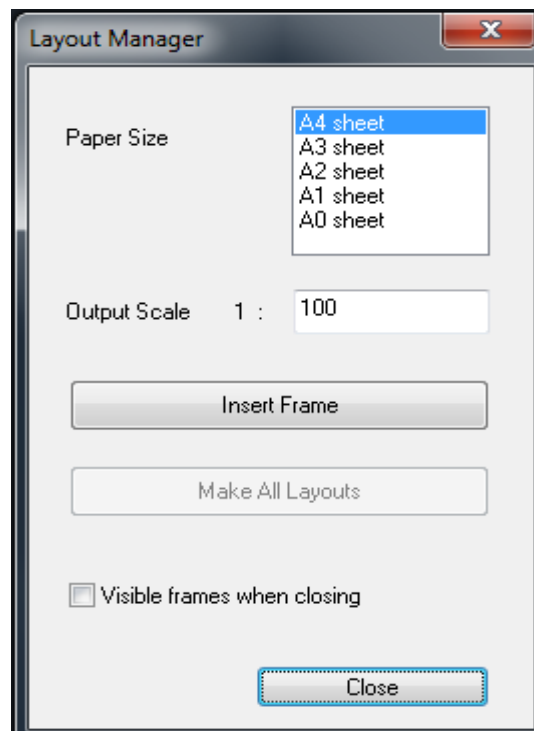

Fig. 3.8 - Layout Manager window
10. *Layout Manager*  activates the window in Fig. 3.8 that manages the creation of the various printing Layouts.
In the window in Fig. 3.8 you can select the following fields:
If you wish to cancel a layout, you must repeat the insertion using *Make All Layouts* in Fig. 3.8, in this case the *Ids_gcad_xyz SW* will present a video message, Fig. 3.10, if you press Yes you except creating new printing layouts substituting the ones previously created.